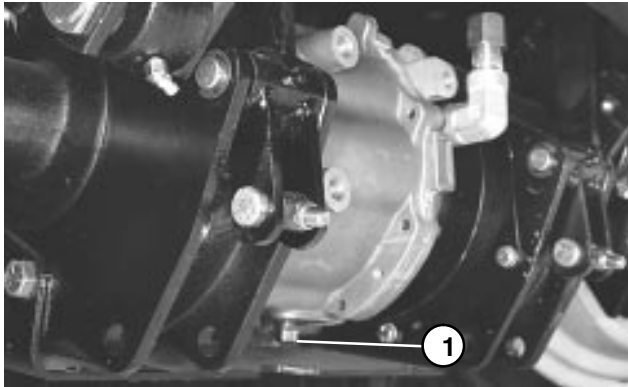

Figure 42
(Fig. 42)
2. Clean area around the drain plug (Fig. 42).